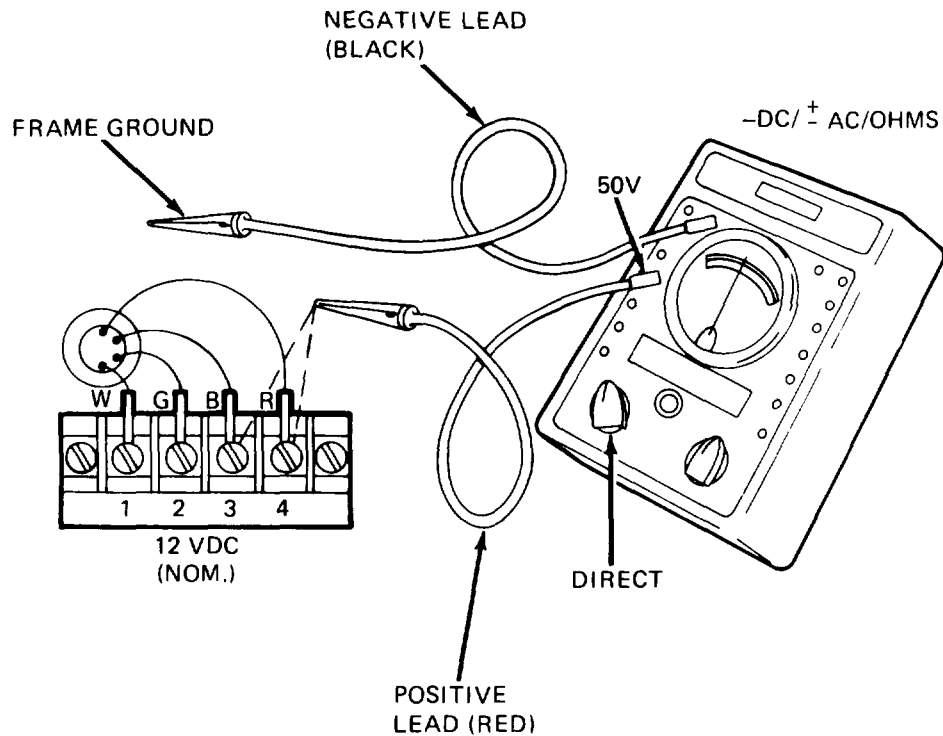

Figure 5-22. Neutral Safety Switch Checks
7	Check operation of the transmission ratio selector neutral safety switch with multimeter as shown (figure 5-22). Check while attempting to crank the engine and the selector in neutral (N).